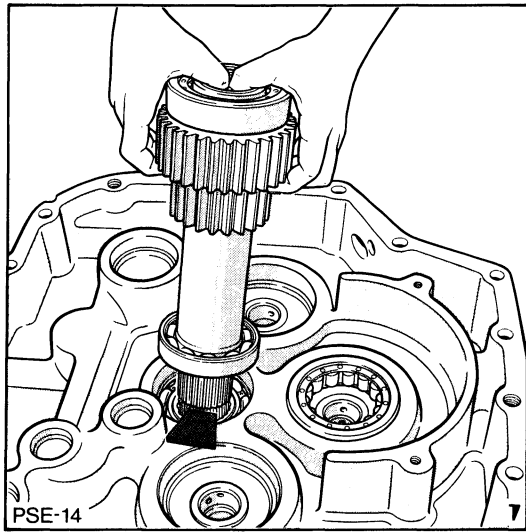
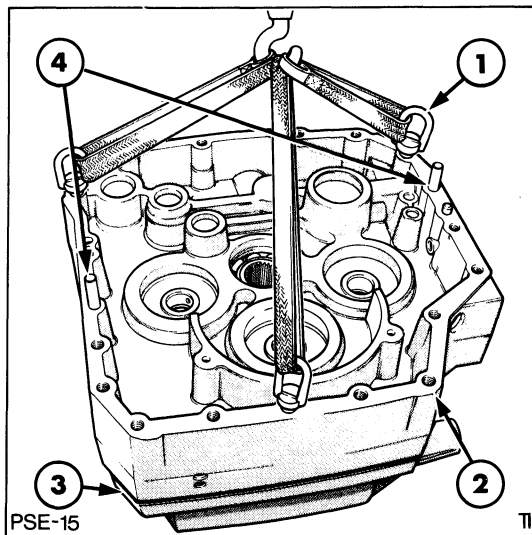

Figure 14
Figure 15
NOTE: To remove the snap ring it is recommended that four restraining clamps be made as shown in Figure 14. Equispace the four clamps, Figure 15, around the rim of the planetary housing and secure with the housing bolts.
1. Screw in three lifting eyes into the threaded holes provided in the centre section. (thread size $\frac{3}{4}$ -10 U.N.C.) Using a suitable lifting sling, carefully lift the centre section away from the front housing, Figure 15. Remove the gasket.